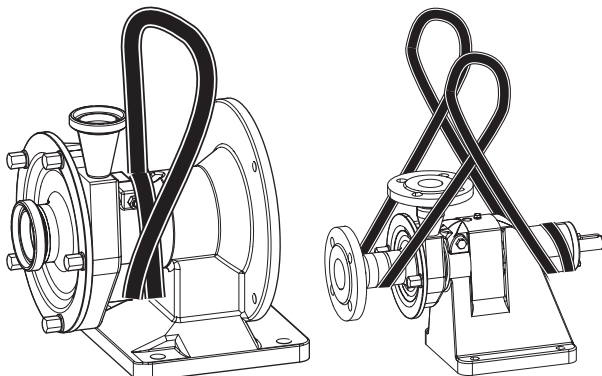

Fig. 53 Moving with crane
1. Wrap the round sling twice around the lantern neck (see Fig. 53, "Moving with crane," page 34).
1. Wrap the round sling twice around the back end of the bearing block (see Fig. 53, "Moving with crane," page 34).